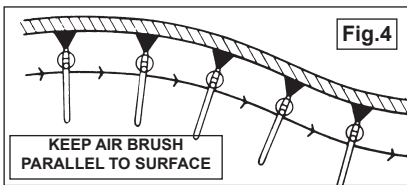

Fig.4
- 4.6. Holding the air brush about 6 inches from the surface press the trigger (Fig.2A) down. Using short strokes, move the air brush at a steady rate, parallel to the surface, fig.4.